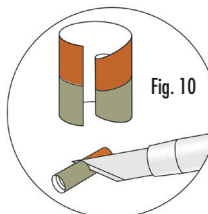

Fig. 10
- 14** The two CHIMNEY STACKS, from ACCESSORIES CARD A, should be prepared in the same way by scoring on the unprinted side. Noting the label on each tab. Prepare the CHIMNEY POT by dampening the paper after cutting out the two pots as one piece (Fig. 10). Roll it tightly until a solid roll is formed.